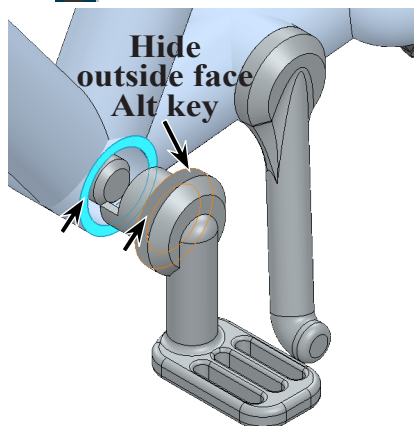

Fig. 20
Step 4. Click **side face of Extrude in Frame at Petal hole** and **hide outside cylindrical Revolve face of Petal**, click **inside face of Pedal**, **Fig. 20**. To hide face, hover cursor over face and press **Alt** key.